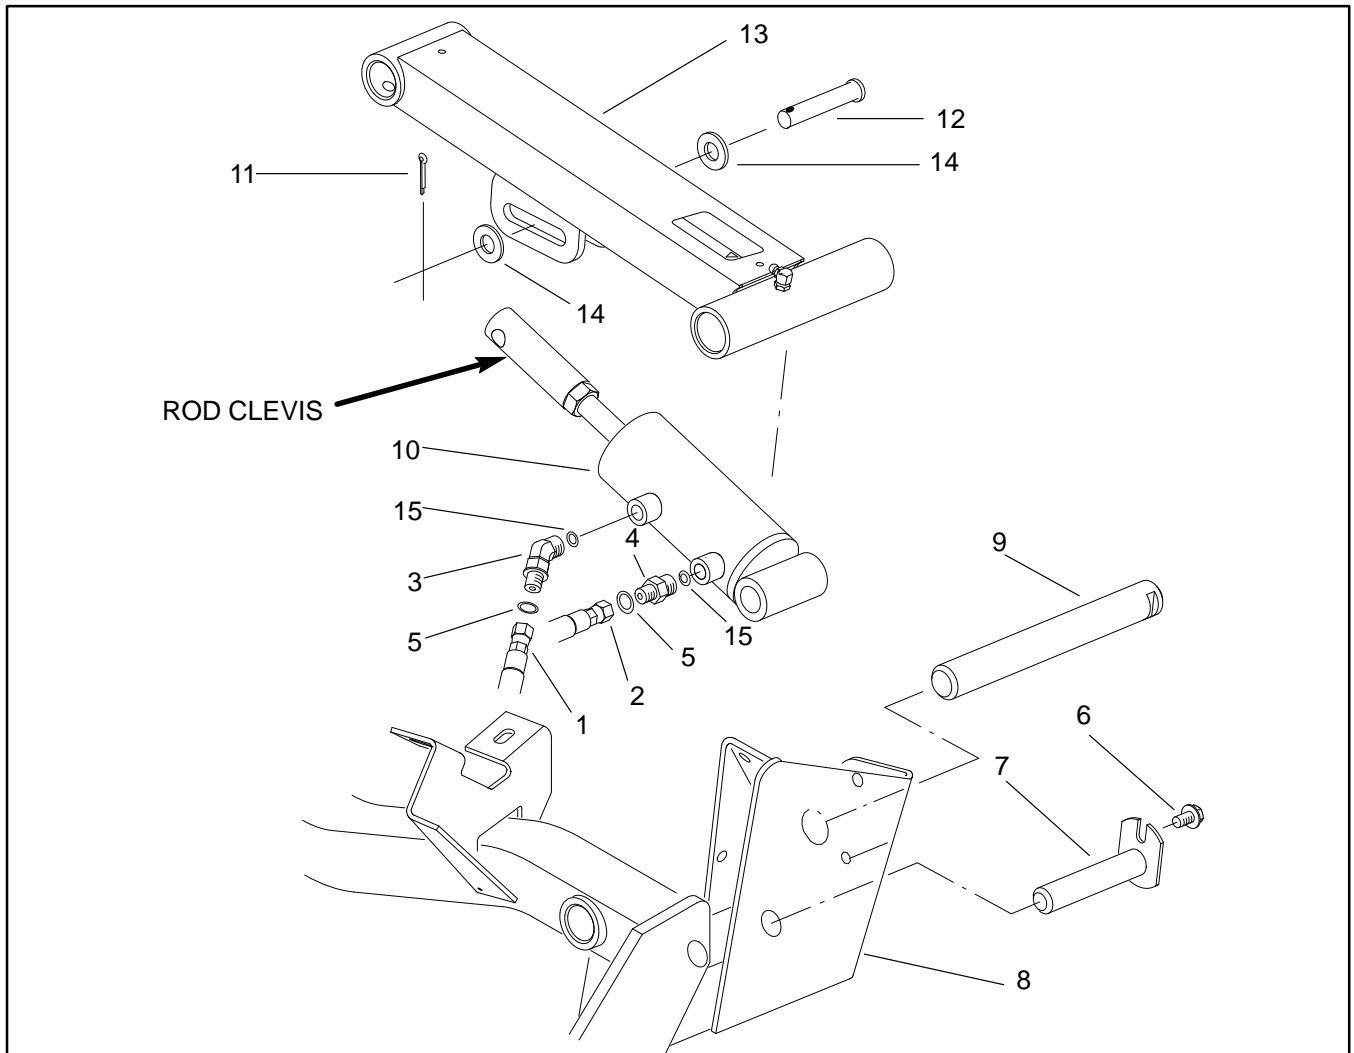

Figure 63
Removal (Fig. 63)
Installation (Fig. 63)
5. If rod clevis (14) has been removed, verify that the distance between the carrier frame rollers (bumpers on later models) and the foot step is about 1/4-inch (6 mm) with the cutting units fully raised. Adjust rod clevis as necessary. (Fig. 63)
- C. Separate rod clevis from lift arm (13) (Fig. 63).
- E. Position rod clevis into lift arm (13) (Fig. 63).
- F. Install clevis pin (12) and flat washers (14) into the lift arm (13) and rod clevis. Secure clevis pin with cotter pin (11) (Fig. 63).